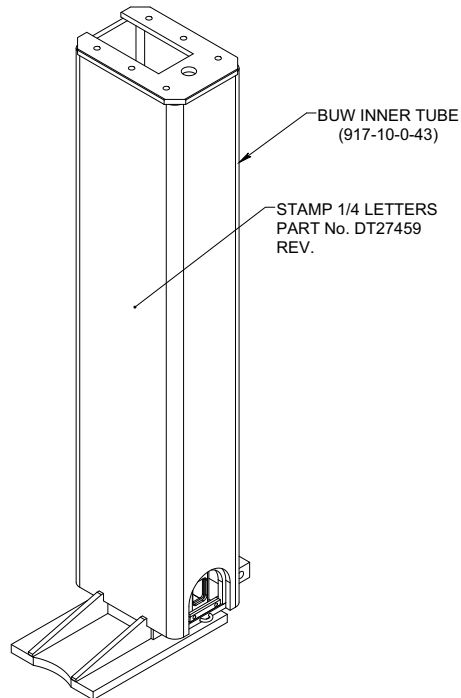

Figure 2: BUW Inner Tube modification (DT11925)
- After modification to Inner Leg, stamp P/N DT27459 as shown in Figure 2.